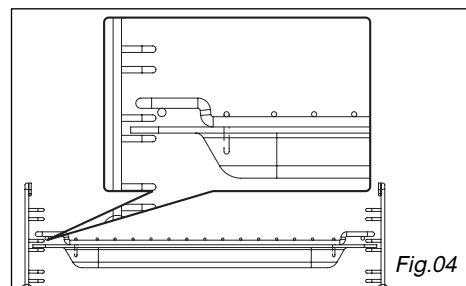

Fig.04
- **Grid + Glass dish:** to roast and recover the cooking juices, place the grid in the glass dish (Fig.04).